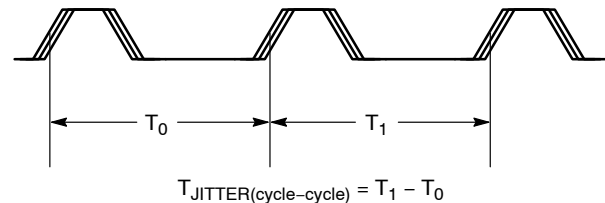

Figure 8. Cycle-to-Cycle Jitter
**Cycle-to-Cycle Jitter** (short-term) is the period variation between adjacent periods over a defined number of observed cycles. The number of cycles observed is application dependent but the JEDEC specification is 1000 cycles. See Figure 8.